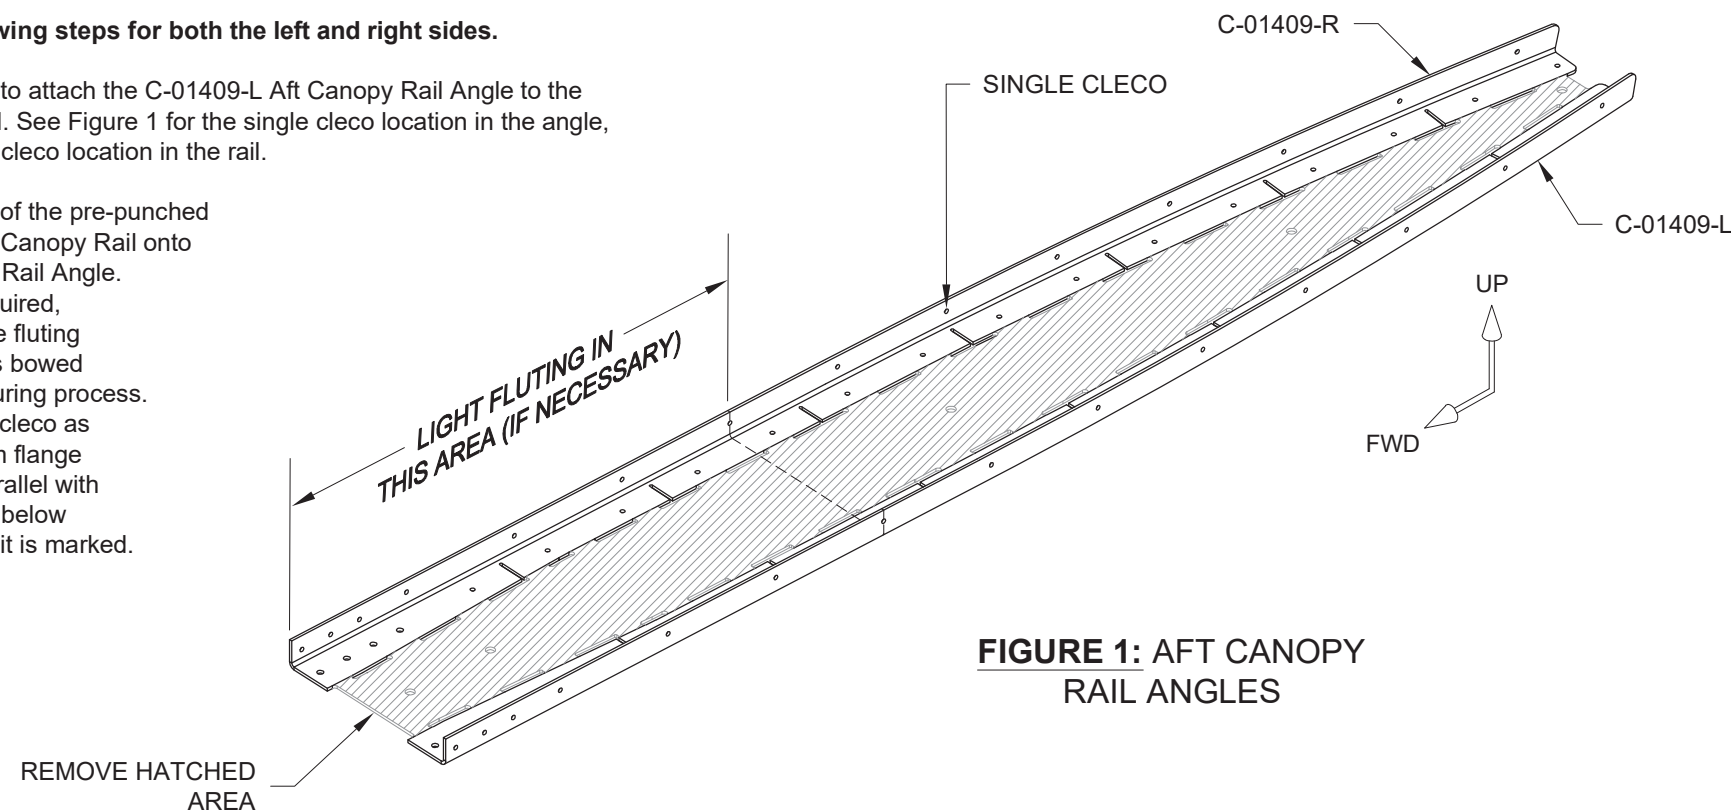

FIGURE 1: AFT CANOPY RAIL ANGLES
Step 2: Use a single cleco to attach the C-01409-L Aft Canopy Rail Angle to the C-01407-L Aft Canopy Rail. See Figure 1 for the single cleco location in the angle, and Figure 2 for the single cleco location in the rail.
Step 5: Flute the side flanges of the C-01409-L Aft Canopy Rail Angle as necessary until the bottom flange of the angle can rest flush on a flat surface. Flute between the holes and hole locations marked in Step 3. It is acceptable to flute twice where space allows. Only light fluting (if any) should be necessary in the area called-out in Figure 1.